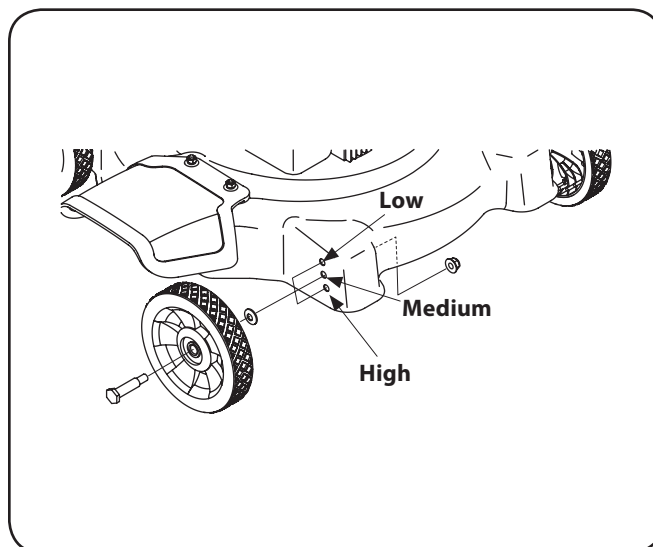
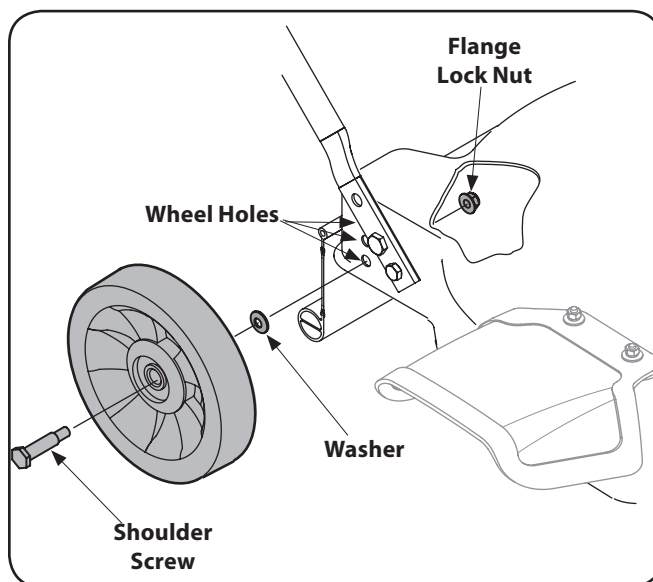

Figure 3-6
Figure 3-7
The holes in the deck (shown in Figure 3-6 and Figure 3-7) provide three cutting heights. Use corresponding holes when attaching all four wheels (i.e. for the lowest cutting position, assemble each wheel at the highest hole on the deck). See Figure 3-6.
1. Secure each wheel to the deck with the shoulder screws (3/4-in. socket wrench), washers, and flange lock nuts (9/16-in. socket wrench). See Figure 3-7.
1. Remove the carriage bolts and related hardware from the wheels. Refer to Figure 3-6 and the instructions in the Wheels section on page 10.